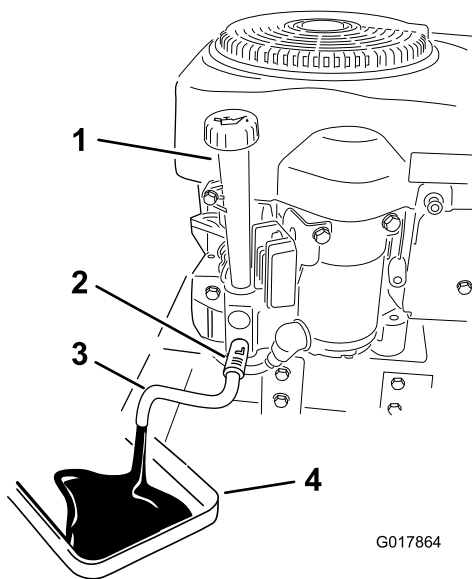

Figure 32
4. Clean the area around the drain valve and on the machine frame, locate the oil-drain hose, and slide it over the drain valve (Figure 32).
6. Place a drain pan underneath the machine directly below the drain hose (Figure 32).
8. Remove the oil-fill cap/dipstick (Figure 32).
12. Slowly pour approximately 80% of the specified amount of oil into the fill hole (Figure 32).